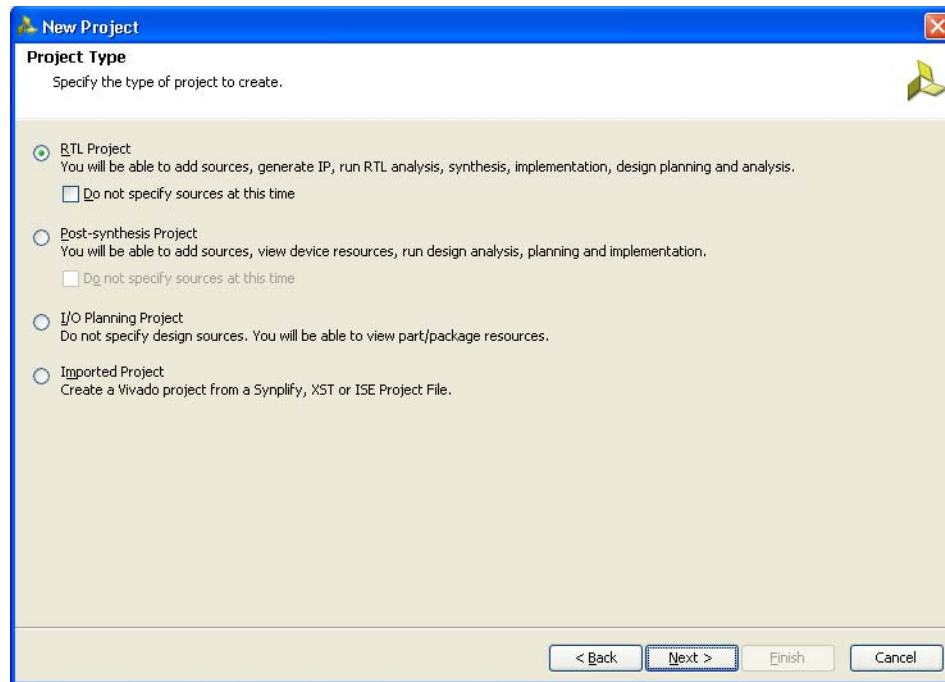

Figure 3-4: Project Type
- Click **Next** to proceed to the **Project Type** page (Figure 3-4). Select the **Project Type** as **RTL Project** because MIG deliverables are RTL files.